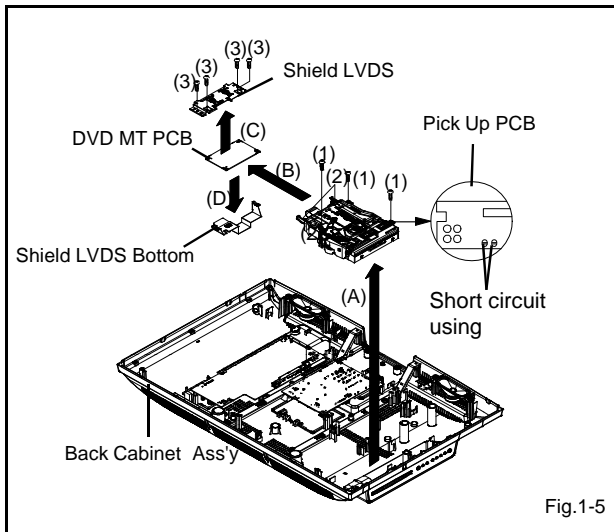

Fig.1-5
1-5: DVD MT PCB and DVD DECK (Refer to Fig. 1-5)
1. Short circuit the position shown in Fig. 1-5 using a soldering iron. If you remove the DVD Deck with no soldering, the Laser may be damaged.